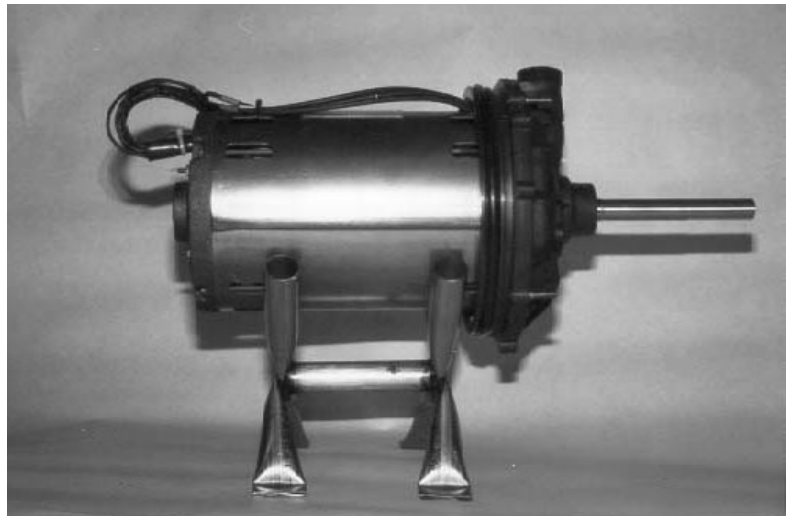

Figure X-3 Place LM motor on motor stand (#SS-C290)
- C. Lift motor/MBP assembly out of housing and place it on motor stand (#SS-C290).** (Fig X-3)